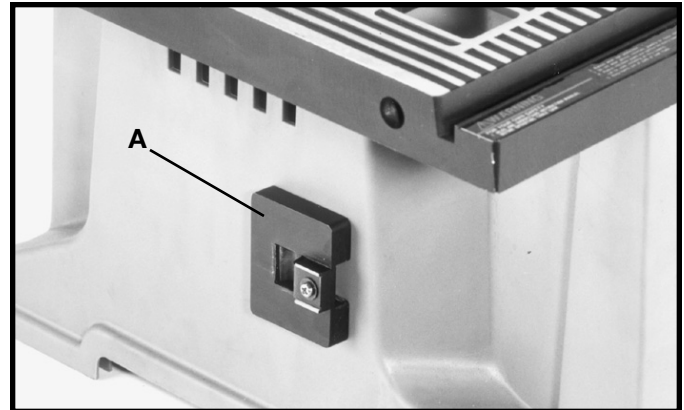
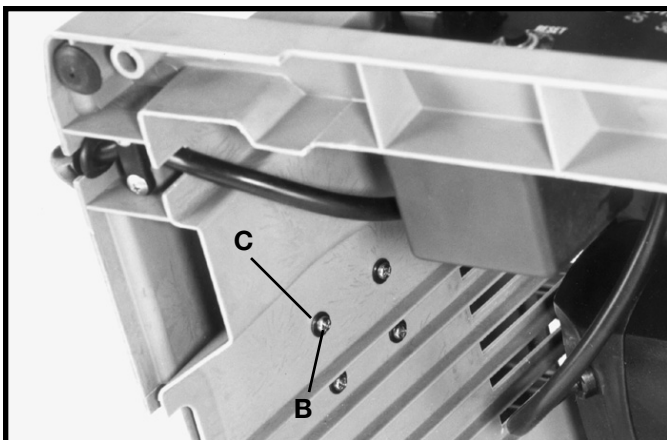

Fig. 28
Fig. 29
2. Assemble the miter gage holder (A) Fig. 28, to the left side of the saw cabinet using the four M4.2x10mm pan head screws (B) Fig. 29, and 3/16" washers (C) from inside saw cabinet.